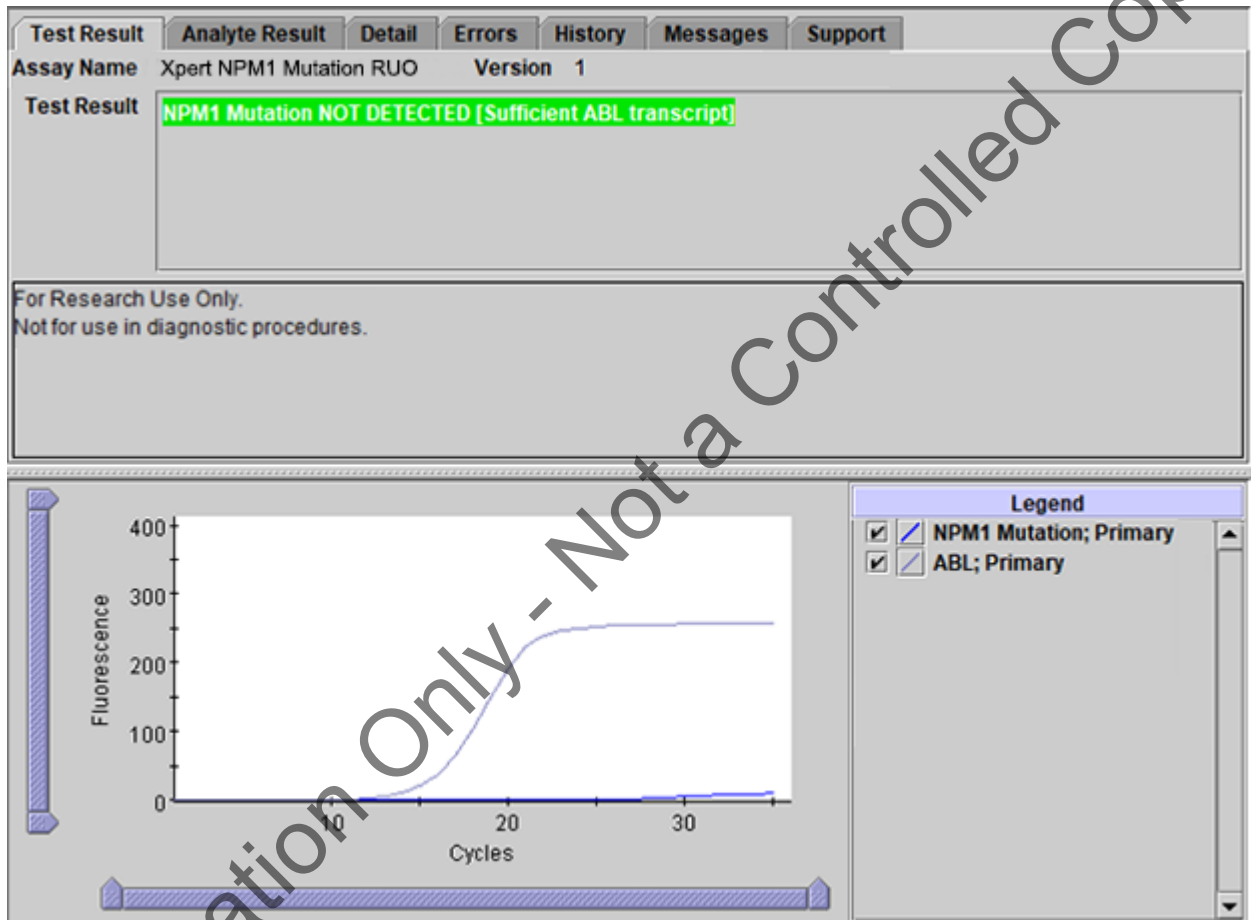

Figure 5. GeneXpert View Results Window: NPM1 Mutation NOT DETECTED [Sufficient ABL transcript]
| NPM1 Mutation NOT DETECTEDSee Figure 5                       | NPM1 mutation transcript was not detected. <ul style="list-style-type: none"> <li>NPM1 Mutation NOT DETECTED [Sufficient ABL transcript] – NPM1 mutation transcript was not detected and has a cycle threshold (Ct) of zero or above the upper end of the valid range and/or an endpoint below the threshold setting.</li> <li>ABL PASS – ABL transcript was detected and has a cycle threshold (Ct) within the valid range and an endpoint above the threshold setting.</li> <li>Probe Check PASS – all probe check results passed.</li> </ul>   |
**Result:** **NPM1 Mutation NOT DETECTED [Sufficient ABL transcript]**. See Figure 5.